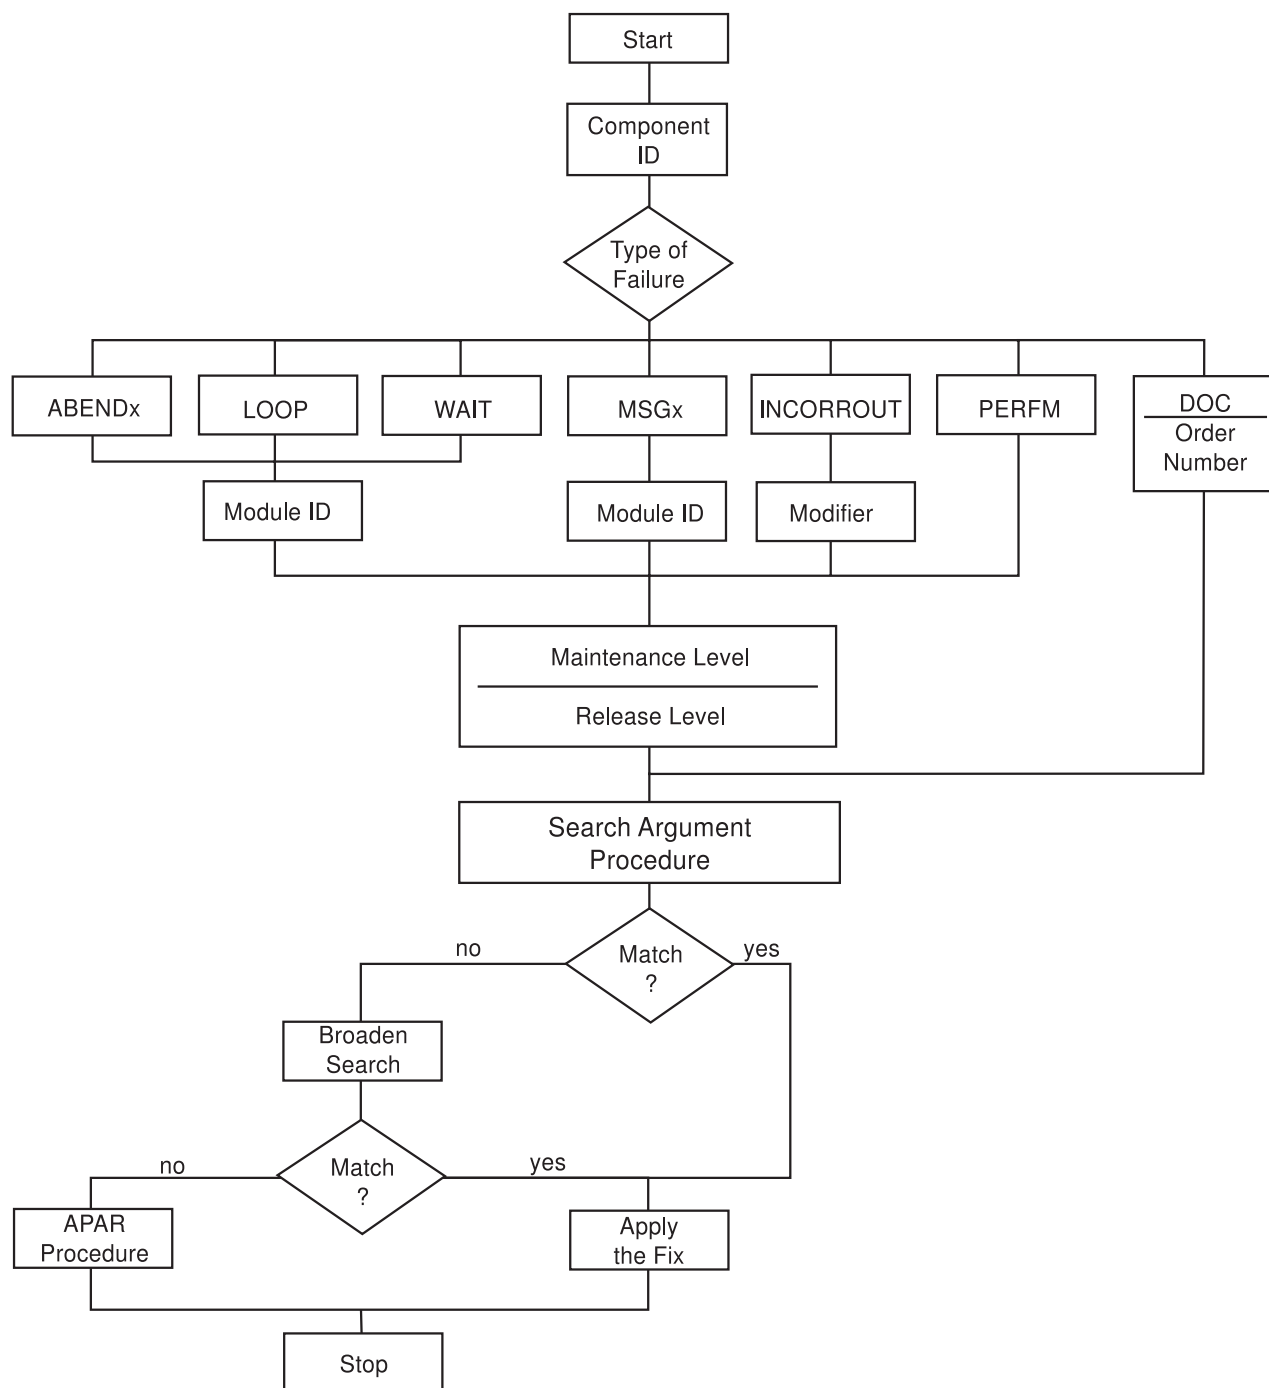

Figure 1. Building and Using a Keyword String
6. If you suspect a problem in the Infoprint Server program, see Figure 1 on page 173 for an explanation of the procedure for selecting keywords.
The procedure for building and using a keyword string is diagrammed in Figure 1 on page 173. After reviewing this figure, see “Component Identification Number” on page 173 to begin building a keyword string.